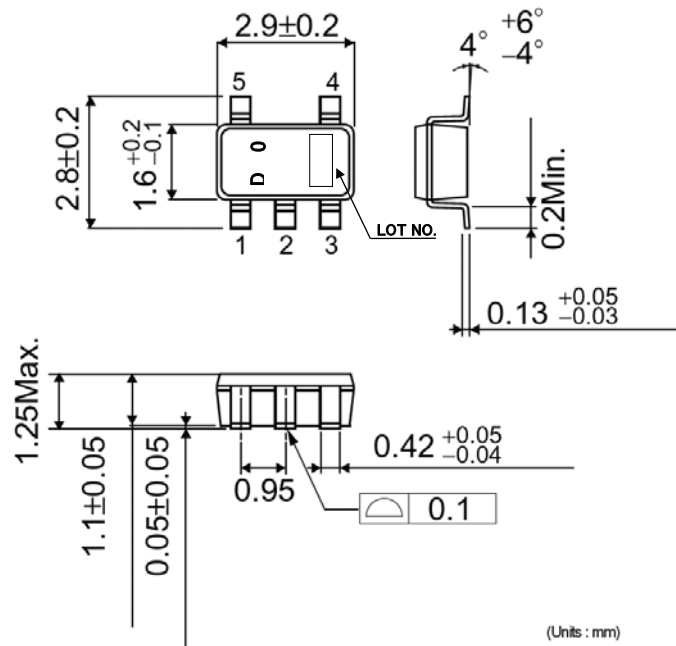

Fig. 1 Package Outline
- Package outline                              Fig. 1